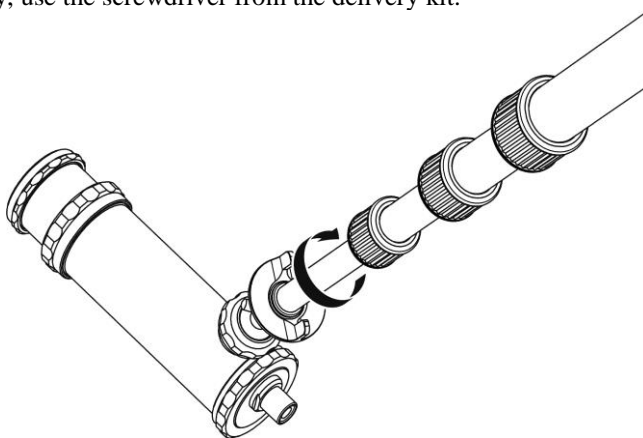

Figure 2.8 – Fixing telescopic tube to BG probe
2.2.5.4 Screw the telescopic tube on the holder of BG probe (Figure 2.8). If necessary, use the screwdriver from the delivery kit.